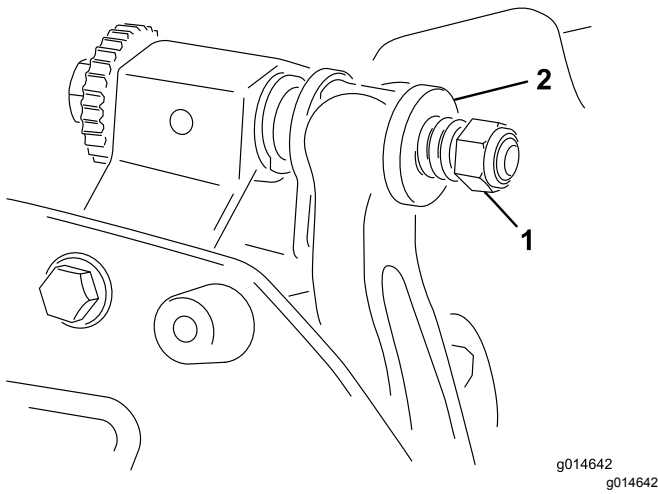

Figure 22
5. Tighten the spring tension nut until the spring is collapsed, then back it off 1/2 turn (Figure 22).